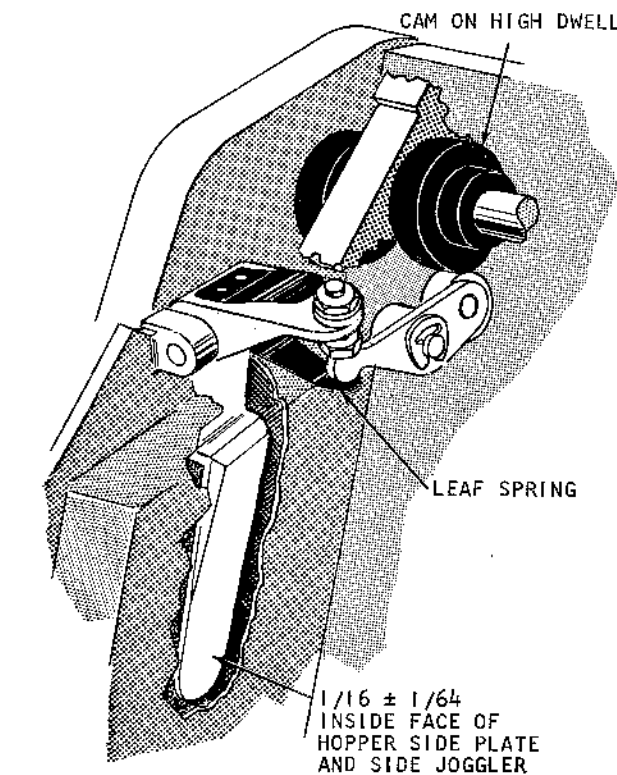

Figure 14. Side Joggler
3. Turn the file feed drive until the hopper joggler cam follower is on the high dwell of the cam. Set the adjustment screw for $\frac{1}{16}$ " \pm $\frac{1}{64}$ " travel of the side joggler past the inside face of the hopper side plate (Figure 14).